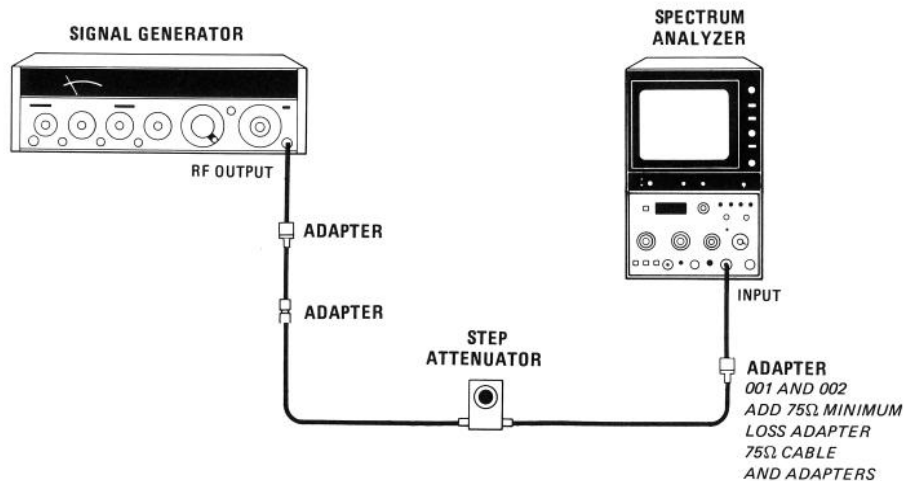

FIGURE 4-17. INPUT ATTENUATOR ACCURACY TEST SETUP
2. Connect equipment as shown in Figure 4-17 with step attenuator set at 0 dB. Locate signal on CRT and adjust signal generator OUTPUT LEVEL until signal peak is 6 divisions above graticule baseline.